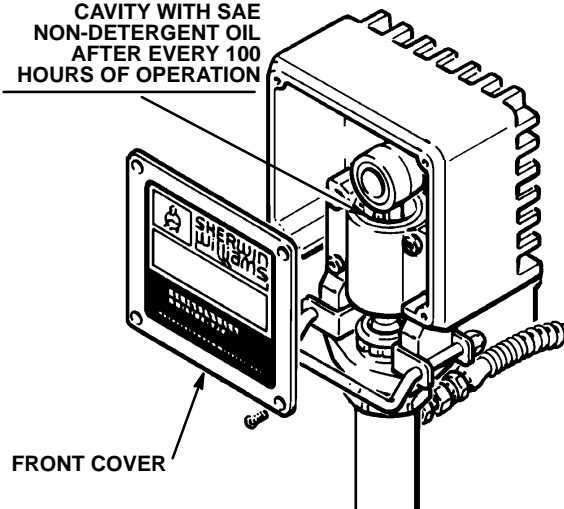

Fig 12-1
2. **Keep the packing nut just tight enough to stop leakage.** Overtightening causes binding and excessive packing wear. Use a round punch or brass rod and light hammer to adjust the nut. See Fig 12-1.
4. **Lubricate the bearing housing after every 100 hours of operation.** Relieve the pressure. Remove the front cover. Fill the bearing housing cavity with SAE 10 non-detergent oil. See Fig 12-1.